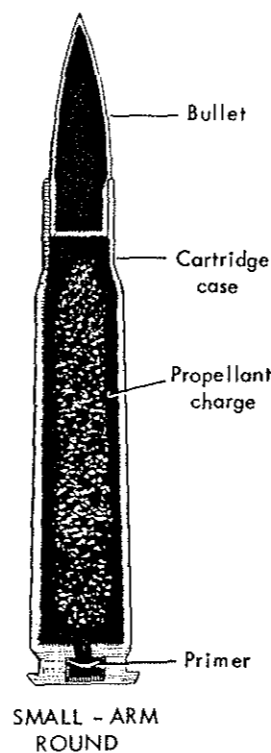

Figure 49.
Ammunition (excluding rockets) falls into three main categories (figs. 49 through 63): (1) small-arms ammunition; (2) mortar ammunition; and (3) artillery ammunition.
Small-arms ammunition consists of four major component parts: the bullet, the cartridge case, the propellant charge, and the primer. These are shown in figure 49.
1. *Complete Round* (fig. 49).